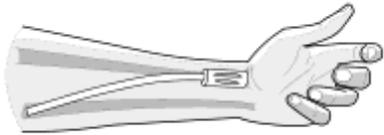

Figure 1. Placement of Tunneler Sheath for straight configuration implantation
8.4.1.7. When positioning of the graft is complete, carefully remove the hollow sheath leaving the graft in place subcutaneously (see Figures 1& 2).